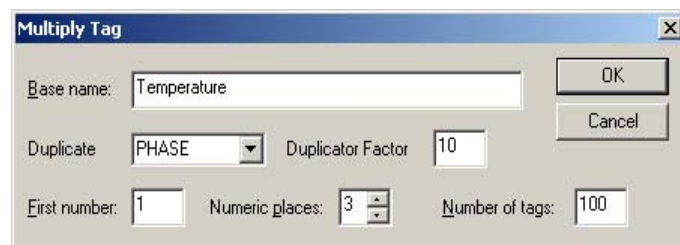

Figure 10 - Multiply Tag
3. Select **Add → Multiply...** from the menu and specify how you want to multiply the tag. You can configure your tag multiplication similar to the settings in Figure 10.